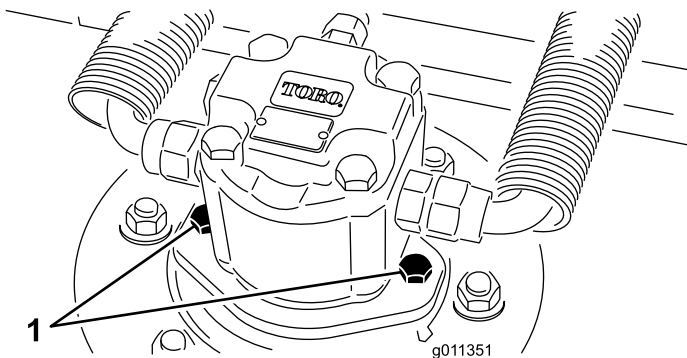

Figure 119
2. Disconnect and remove the hydraulic motor from the cutting unit (Figure 119). Cover the top of the spindle to prevent contamination.
3. Install the hydraulic motor to the cutting unit (Figure 119). Make sure that the O-ring is in position and not damaged.